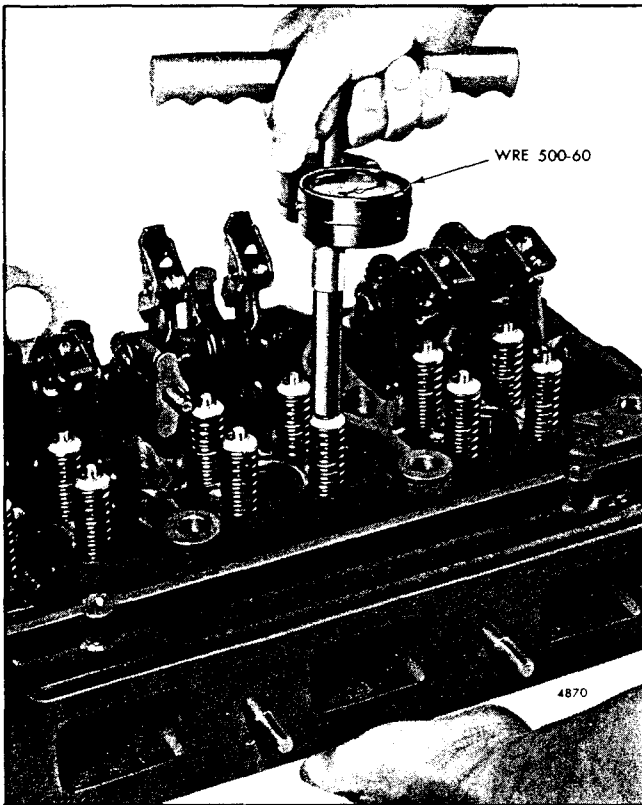

Fig. 16 - Checking Valve Opening Pressure with Gage WRE-500-60
10. With the exhaust valves installed in the cylinder head, use spring checking gage WRE -500-60 and note the gage reading the moment the exhaust valve starts to open (Fig. 16). The minimum pressure required to start to open the exhaust valve must not be less than 33 pounds for a two valve cylinder head or 25 pounds for a four valve cylinder head.